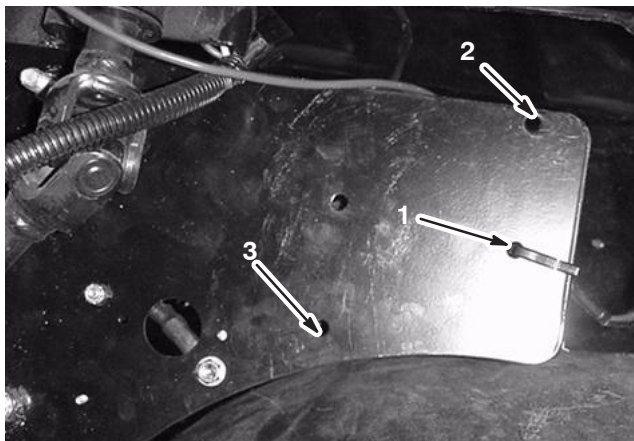

Figure 10
4. Connect the timer to the front side (under the hood) of the dash plate using a bolt (1/4 x 1-3/8 in.) and locknut (1/4 in.) in the location illustrated in Figures 10 and 11.
6. Connect the relay to the back side (under the dash) of the dash plate using a bolt (1/4 x 3/4 in.) and locknut (1/4 in.) in the location illustrated in Figures 10 and 12.